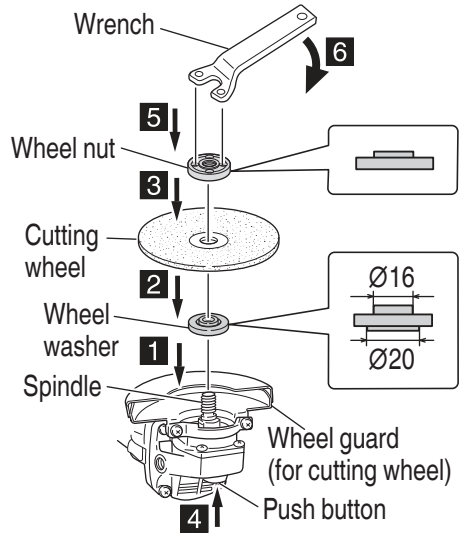

Fig. 7
## ASSEMBLING AND DISASSEMBLING THE CUTTING WHEEL (Fig. 7)
#### 1. Assembling (Fig. 7)
- (1) Turn the disc grinder upsidedown so that the spindle is facing upward.
- (2) On the spindle, place the  $\text{\O}20$  wheel washer towards the spindle and then attach the cutting wheel.
- (3) From the top of the cutting wheel, place the depressed side of the wheel nut towards the cutting wheel and attach to the spindle.
- (4) Screw the wheel nut onto the spindle.
- (5) While pushing the push button with one hand, lock the spindle by turning the depressed center wheel slowly with the other hand.
- Tighten the wheel nut by using the supplied wrench as shown in Fig. 7.